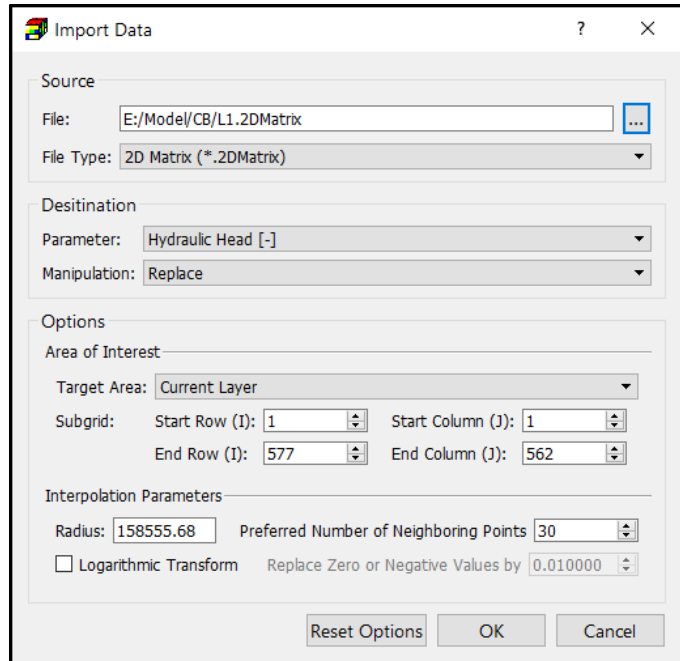

Figure 46. The Import Data dialog box
5. **Tools > Data > Import:** Open the Import Data dialog box (Figure 46) that allows you to import cell values from several types of files.